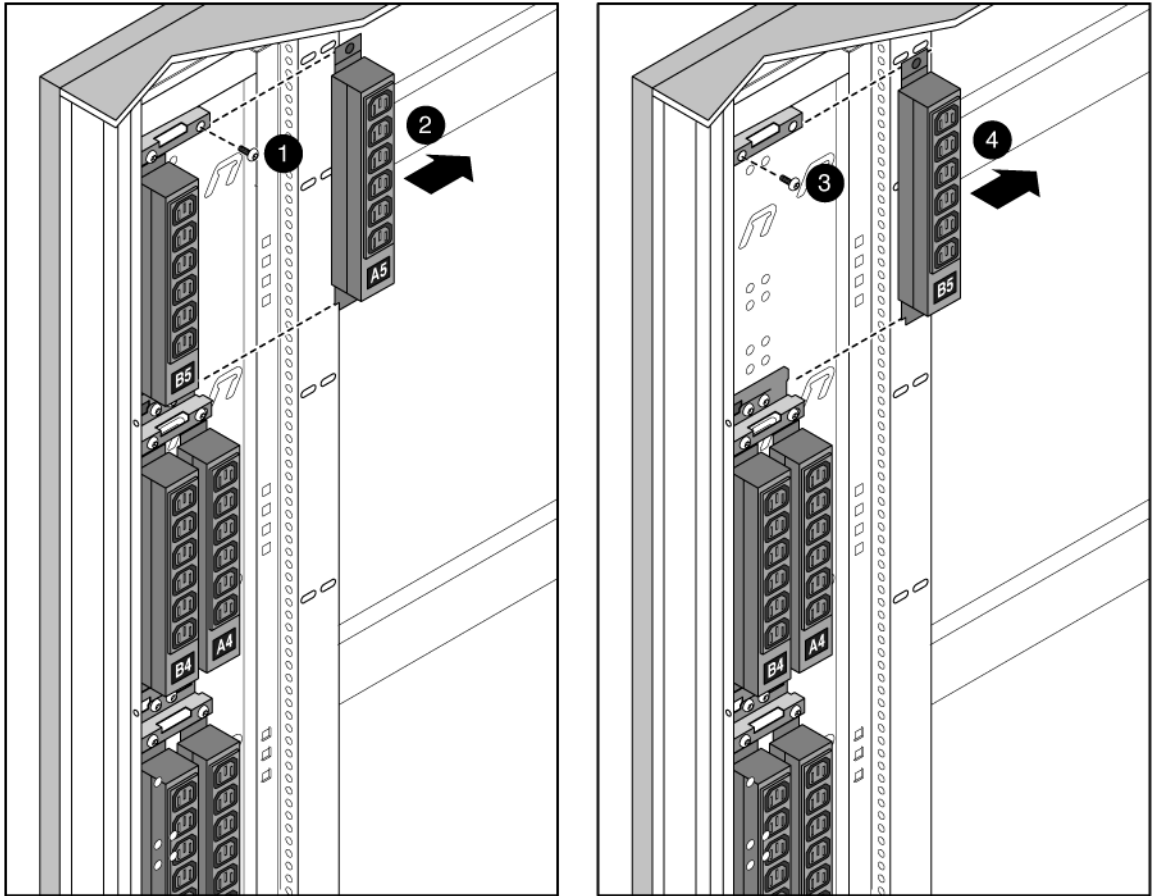

FIGURE 2-18 Removing the Power Strips and Brackets
5. Using a 5 mm hex wrench, unscrew the top power strip bracket from power strip A0 and B0 (FIGURE 2-18).
6. Slide power strip A0 and B0 out of the bracket (FIGURE 2-18).